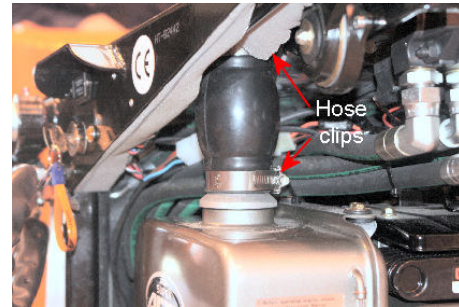

Fig 3-8 Fuel tank inlet hose
1. Slacken the screws securing the hose on the tank inlet and remove the hose (Fig 3-8).